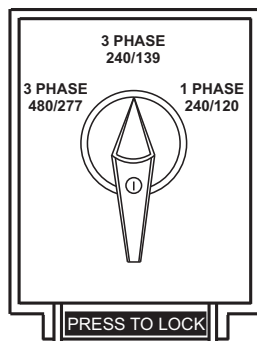

Figure 26. Voltage Selector Switch
1. Place the voltage selector switch in the 3Ø 240/139V position as shown in Figure 26.